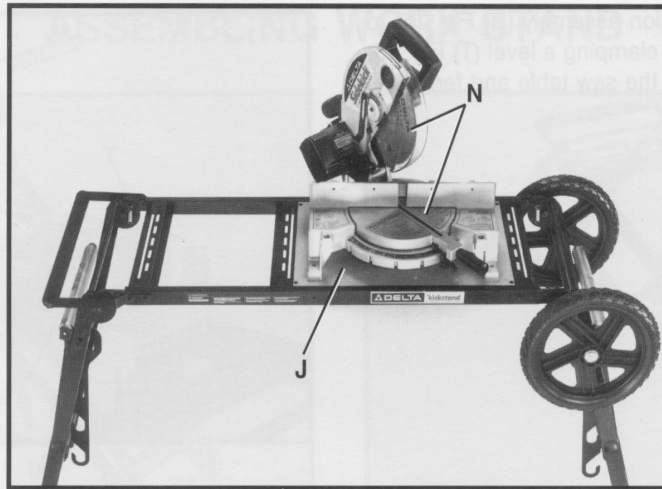

Fig. 11
9. Place the saw (N) Fig. 11, on the fiber board (J), as shown. Center the base of the saw on the fiber board and mark and drill mounting holes in the fiber board. **NOTE:** A table extension will later be mounted to the left hand side of the saw. If you would prefer to have the table extension on the right hand side of the saw, simply turn the saw 180 degrees before marking and drilling the mounting holes. Fasten the saw to the fiber board. Mounting hardware not included.